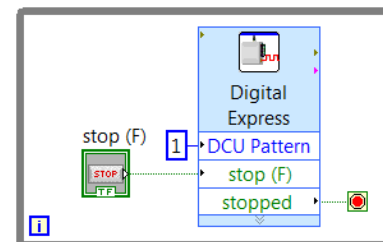
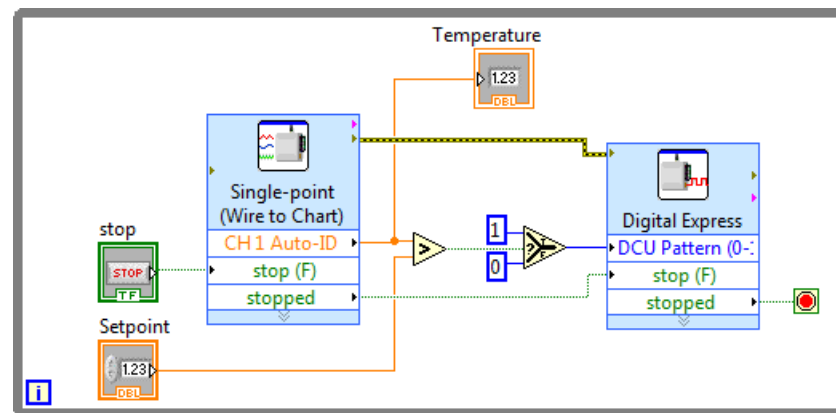

Figure 19 LabVIEW VI to control a DCU line
Figure 20 LabVIEW VI to control the DCU with a sensor reading
The DCU Pattern is an input terminal on the Digital Express VI and can be programmed as a constant, as shown in Figure 19, or as a front-panel control, as shown in Figure 20, depending upon your application.
Alternatively, the DCU Pattern can be controlled from sensors connected to the system to create the same examples as described in the *Logger Pro* Examples section of this manual. A simple example program for a temperature monitoring system is shown in Figure 20. In this program, an Analog Express VI is used to collect data from a temperature sensor connected to the interface. DCU line D1 will turn on when the temperature exceeds a set point defined by a front-panel control.
It is important when using the Digital Express VI to control a DCU output line that the “stop (F)” and “stopped” terminals are wired as shown in Figures 19 and 20. This ensures that all lines are turned off when program execution ends. Avoid using the